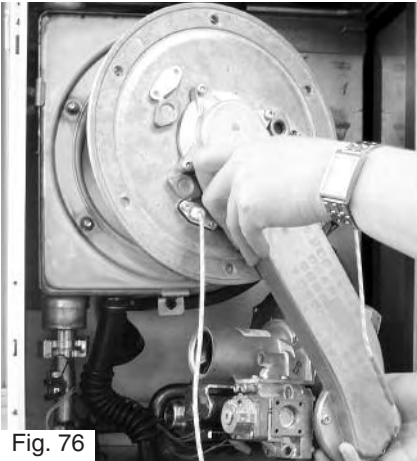

Fig. 76
3. Remove the air gas manifold as in 18.2.1 (Fig. 76);